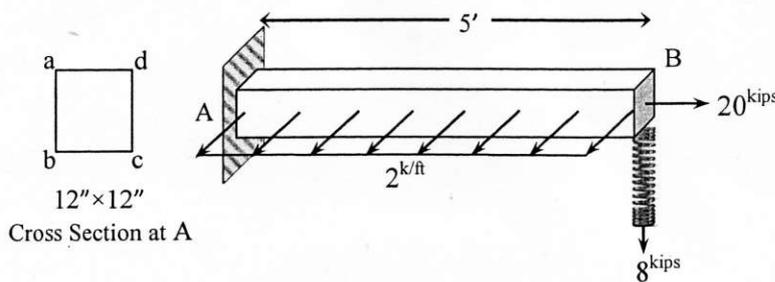

Figure 3
3. Calculate the combined normal stresses at the four corners (a, b, c and d) of the fixed end section at A of the beam loaded as shown in **Figure 3**. Also calculate the combined shear stress for the spring. [Given: coil diameter = 1.5 in, average spring radius = 4 in, number of coils = 10 and shear modulus = 12000 ksi.]